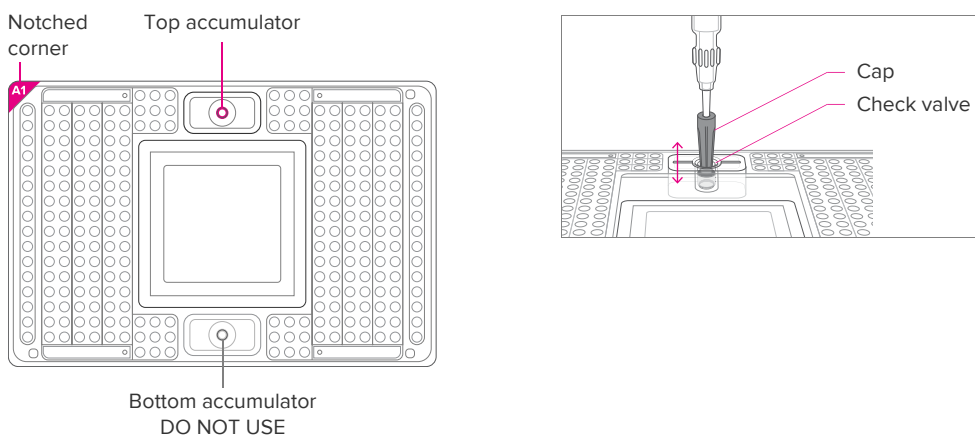

Figure 5. Actuating the check valve in the top accumulator on the 192.24 IFC
- b Then, use the syringe with the shipping cap in place to actuate the check valve in the top accumulator (closest to the notched A1 corner of the IFC) with gentle pressure. Ensure that the poppet can move freely up and down (Figure 5 on page 15).